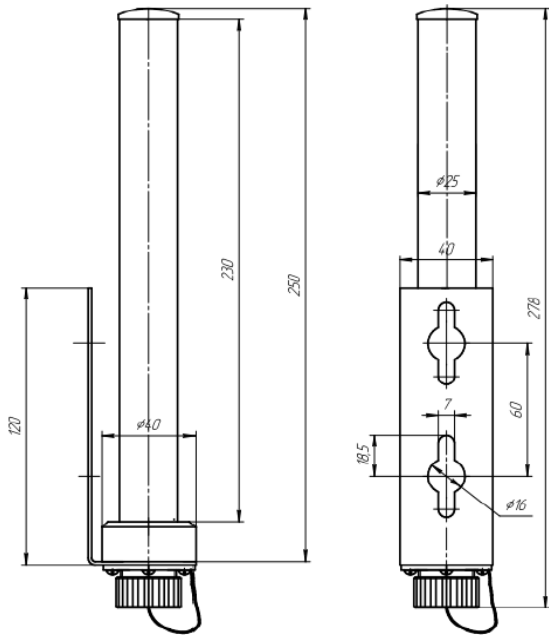

Figure 1. Overall dimensions of the KBS's antenna
- Basic dimensions at the processing facilities correspond to the dimensions of the antennas (see Fig. 1);